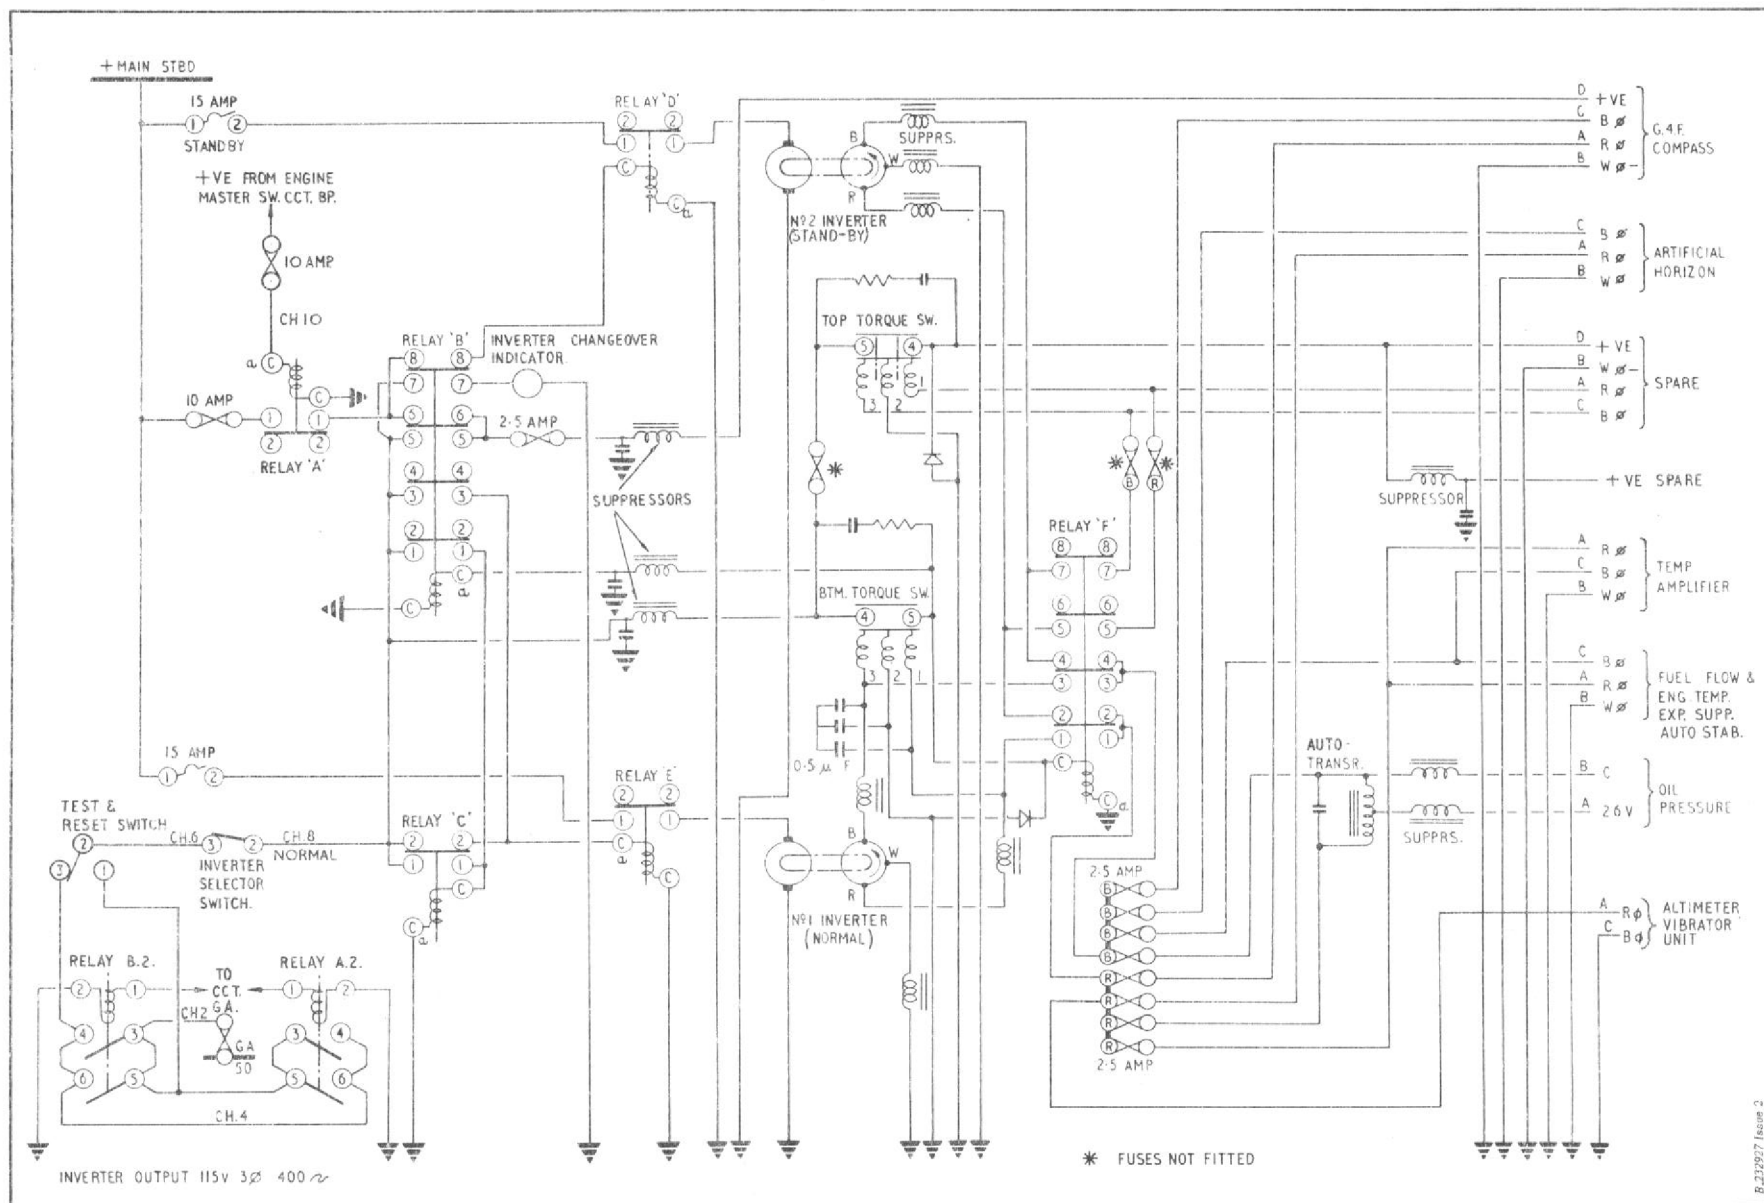

Fig.1 A.C. Supplies Circuit (Theoretical)
3. The A.C. junction box is mounted on the starboard side of the cabin. It contains the torque switches and relays which effect the automatic switching of the inverters, and the bus-bars from which their output is taken to the a.c. - operated installations. It also contains an auto-transformer for supplying the oil pressure installation; the supply lines to this installation are fitted with radio-interference suppressors. Suppressors are also included in the d.c. lines at points within the junction box (*fig.1*). The inverters are supplied from the main d.c. supply line, and each inverter is protected by a circuit breaker. The circuit breakers marked NORMAL and STANDBY, are mounted at the top of the A.C. junction box. The STANDBY circuit-breaker is connected to relay D and when energized,